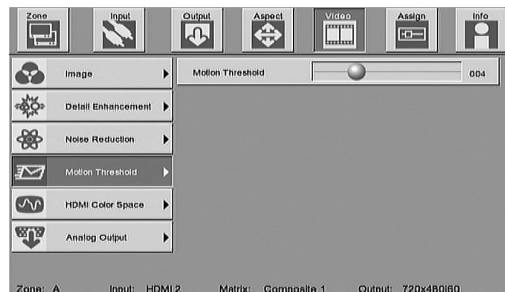

Figure 73
2. Select the VIDEO Icon, then select the MOTION THRESHOLD Icon. Refer to figure 73.